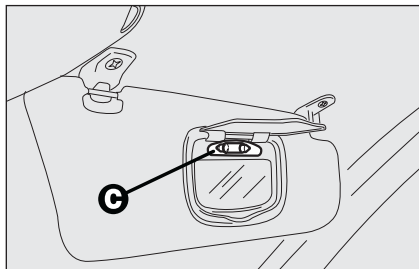

fig. 47
- replace the bulb **C-fig. 47** releasing it from the side contacts making sure that the new bulb is correctly clamped between the contacts.